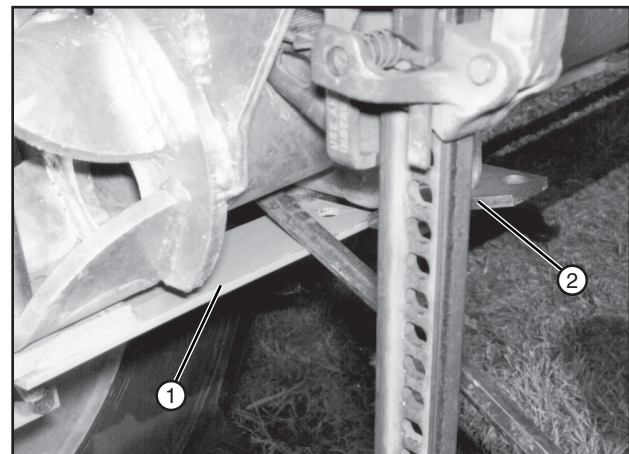

Figure 82-2 1. Steering Arm 2. Latch Plate
6. Using a pry bar, push down on the steering arm to release it from the latch plate. Push the tire toward the tow position until steering arm is out of latch plate. See figure 82-2.